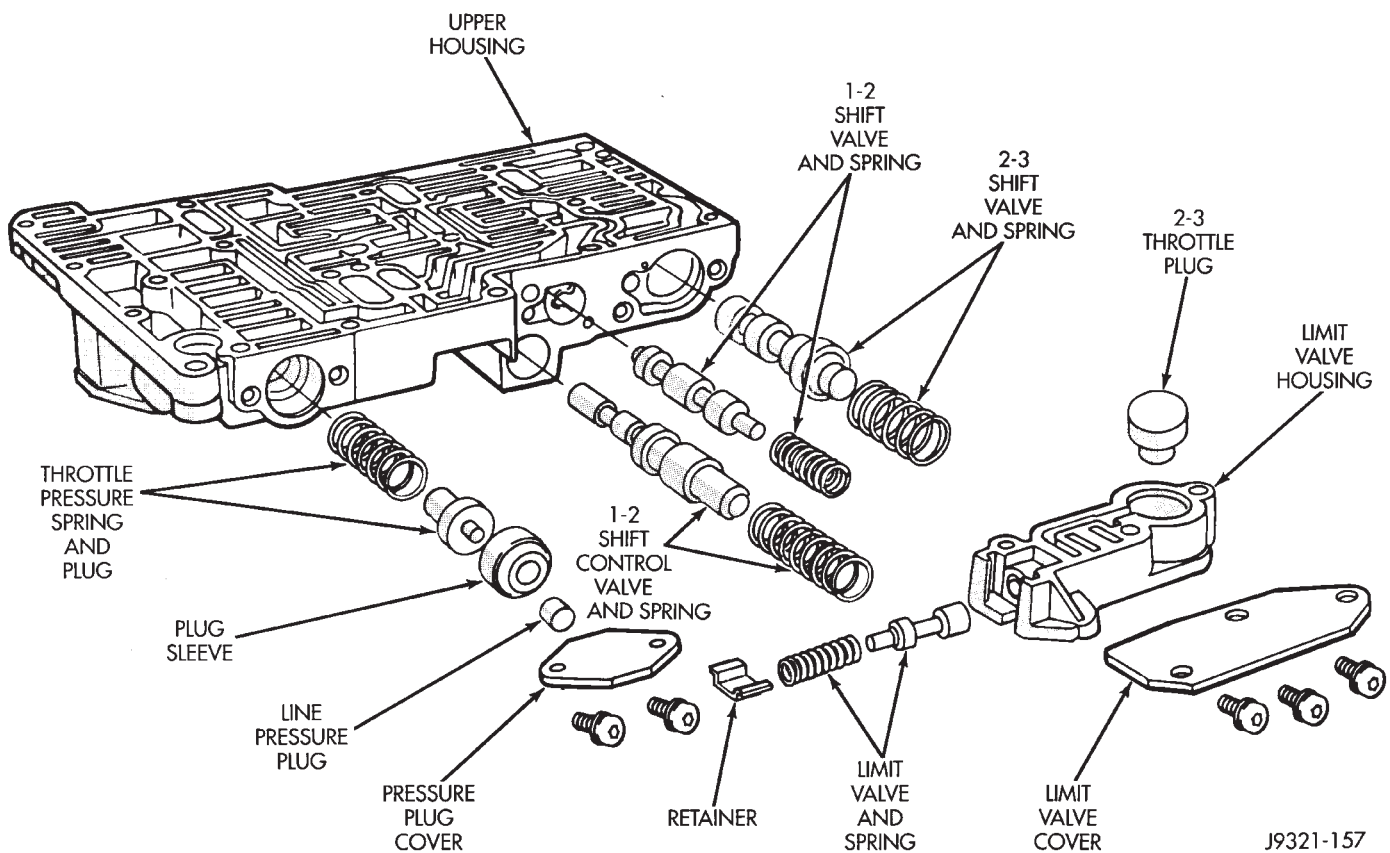

Fig. 123 Shift Valve And Pressure Plug Locations In Upper Housing
(9) Turn upper housing around and remove limit valve and shift valve covers (Fig. 123).
(10) Remove limit valve housing. Then remove retainer, spring, limit valve, and 2-3 throttle plug from limit valve housing (Fig. 123).
(11) Remove 1-2 shift control valve and spring (Fig. 123).
(12) Remove 1-2 shift valve and spring (Fig. 123).
(13) Remove 2-3 shift valve and spring from valve body (Fig. 123).
(14) Remove pressure plug cover (Fig. 123).
(15) Remove line pressure plug, sleeve, throttle pressure plug and spring (Fig. 123).